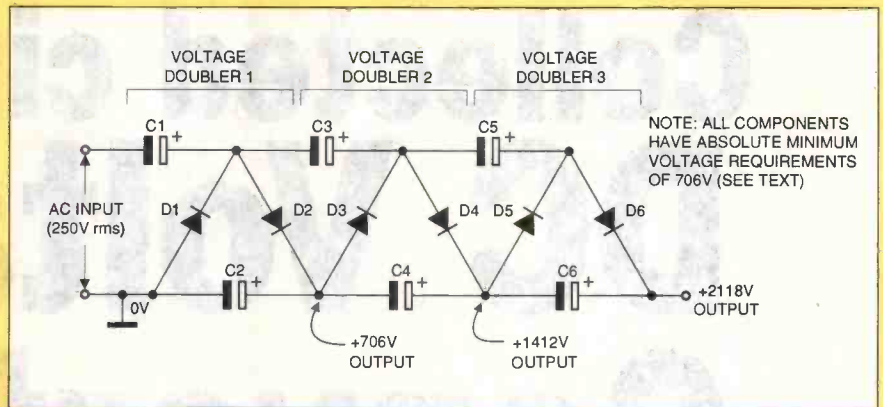
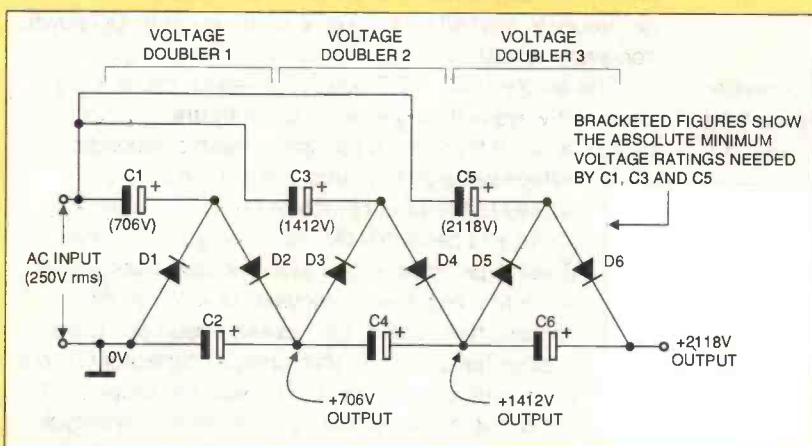

Figure 5: this 3-stage Cockcroft-Walton circuit gives x6 voltage multiplication
Figure 4: three "doublers" interconnected to give x6 voltage multiplication
**Figure 4**, for example, shows three of these "doubler" stages interconnected to give a voltage sextupler, in which the final output voltage is six times greater than the peak value of the original 250V rms input voltage. Here, each "doubler" section generates an individual output (across its C2, C4, or C6 capacitor) of 706V, but the output of the first doubler acts as the  $V_{ref}$  point of the second doubler, and output of the second doubler acts as the  $V_{ref}$  point of the third doubler, the net effect being that the three individual output voltages add together to give a final DC output of +2118V from the 250V AC input.
In the **figure 4** circuit the input capacitor of each section is fed directly from the AC input voltage, and needs an absolute minimum voltage rating equal to that section's output-to-ground voltage. For instance, C5 needs a minimum rating of 2118V. In the mid-1930s a modified version of the voltage multiplier was designed to overcome this snag. Known as the Cockcroft-Walton voltage multiplier, it uses standard voltage-doubler stages interconnected as shown in **figure 5**. This circuit is similar to that of **figure 4**, except that the input of each doubler except the first is fed from the "clamped" AC voltage point of the preceding doubler. Consequently, the "minimum voltage rating" requirement of each component used in each doubler stage equals the peak-to-peak value of the original AC input voltage.